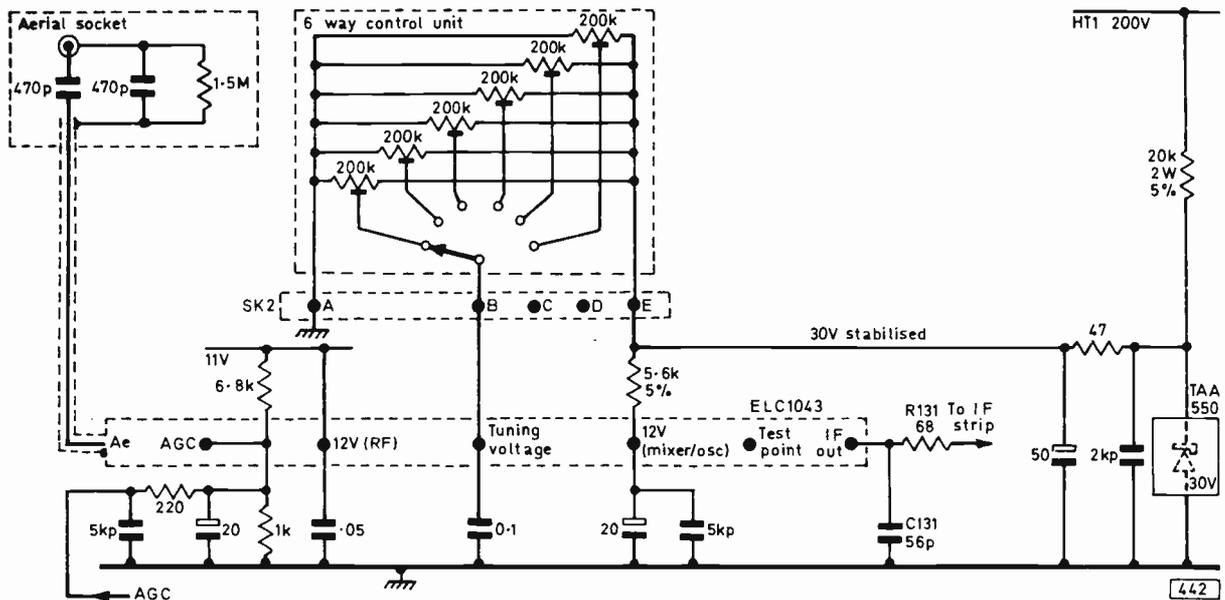

Fig. 4: The circuitry used with the ELC1043 varicap tuner in the Pye 769 chassis.
Figure 4 shows how the tuner is connected in circuit in a modern single-standard chassis, the Pye 769. The connections are as follows.
i.F. Output. This can be fed by coaxial cable to the normal point in the receiver, i.e. the i.f. strip input or the 625 injection point on the v.h.f. tuner. Since this point is at h.t. potential in some valve circuits a 1,000pF series isolating capacitor should always be used if in doubt. It is prudent to keep the i.f. output lead short relative to a quarter wavelength at 37MHz, i.e. less than 2ft. This length adds about 40pF to the i.f. output loading. The i.f. output tuning coil is accessible at one end of the tuner (opposite end to the aerial input) and may require careful trimming with a non-metallic screwdriver for optimum resolution of the test card gratings. If the core has to go all the way in extra capacitance such as C131 in Fig. 4 is needed. For proper i.f. alignment a test point for connecting a
12V Supply to R.F. Stage. Since the current drawn here varies greatly with a.g.c. it should not be taken from the tuning supply otherwise the tuning will be affected by a.g.c. variations. If the receiver has a 12V rail as in Fig. 4 this can be used: a decoupling capacitor must be connected at the tuner. Alternatively a 12V supply can be derived from the valve h.t. line (200V approximately) by means of a 12V 400mW zener diode, 8.2kΩ 5W resistor and 20μF and 0.1μF parallel decouplers (see Fig. 8 later). Further possibilities include extracting 12V from across the cathode decoupling capacitors of the audio or field output valves.
The recommended tuning voltage source is 28-30V from a Mullard TAA550 stabilizer as shown in Fig. 4. This is a special purpose i.c. which acts as a high-performance zener diode. For monochrome television where ultimate tuning stability is not essential an ordinary 30V 400mW zener is adequate and cheaper. This can be fed with a constant 8mA